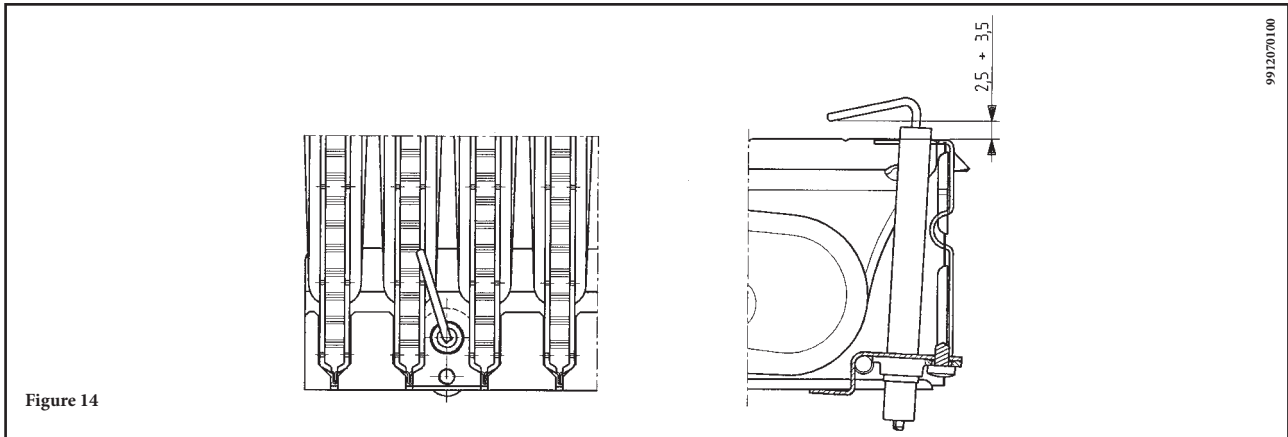

Figure 14
- unscrew the ring nut from the relative drain tap (figure 14);